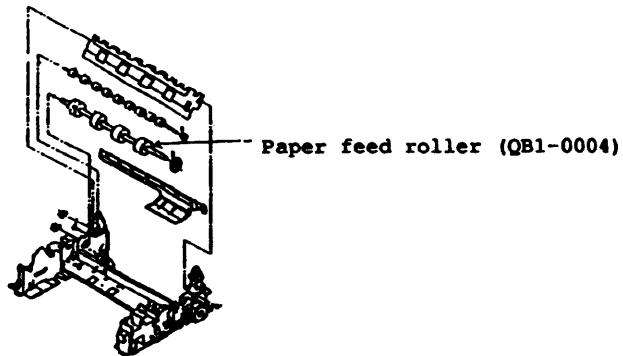

Figure 15
a. Change in hardness of rubbers used for the paper feed roller (QB1-0004) (See Figure 15.)